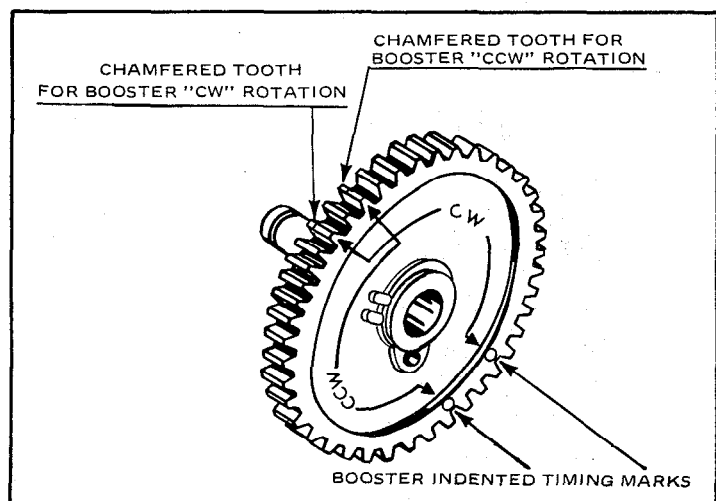

Figure 3. Timing Marks on Present Production Distributor Gear Kit Assembly 10-357586
3. If present production distributor gear as supplied in kit P/N 10-357586 is used (see figure 3) proceed as follows: